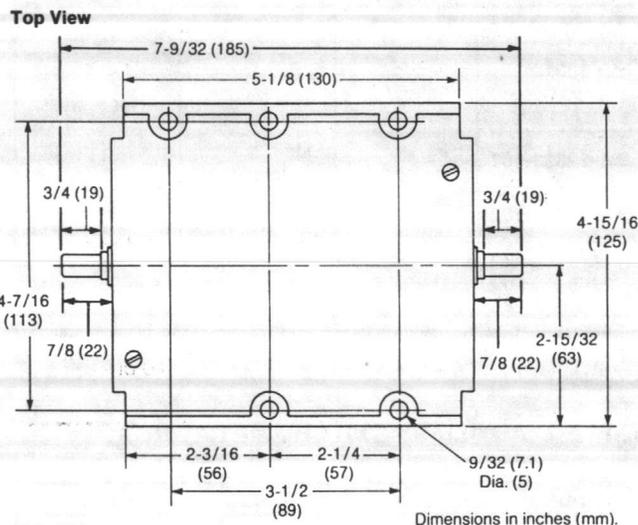

Figure 1. Mounting Dimensions for MA-123X3 Series
Location: The actuator can be mounted in any position in a weather protected area. Five 9/32" (7.1 mm) mounting holes are provided in the base of the actuator (see Figure 1). Two (2) mounting screws on right side and one (1) screw on left side of actuator are the minimum number of required fasteners. Locate the actuator as close to the damper as possible.